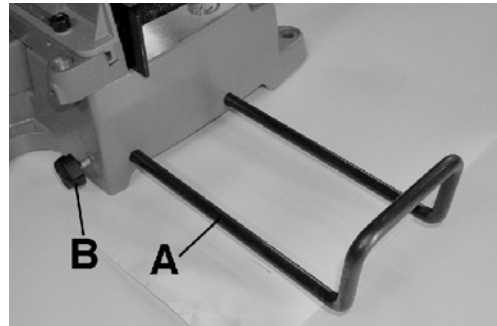

Fig. 7: Side support aids
Step 6: When cutting longer workpieces, mount the support aids (Pos. A, Fig. 7) on the left and right sides of the saw table. Secure the support aids from slipping out by tightening the locking screws (Pos. B, Fig. 7).